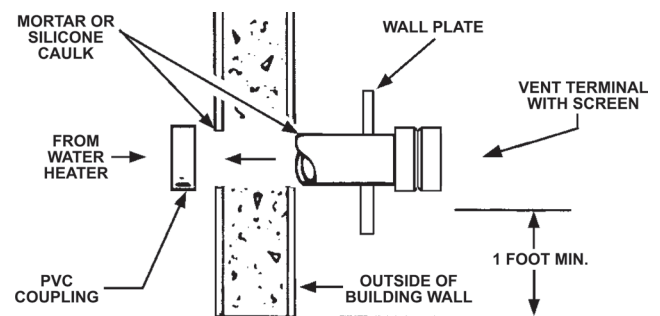
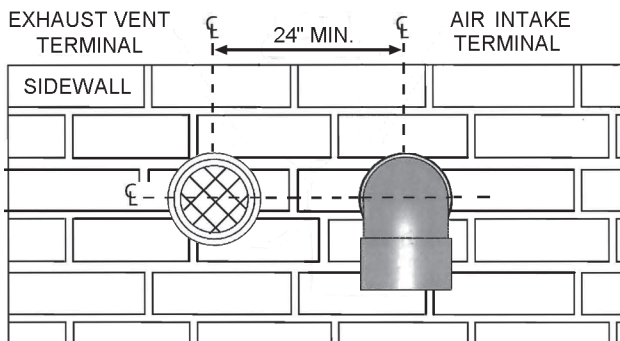

Figure 12: VENT TERMINATION
Figure 13A
2. Through-the-Wall Termination - horizontal vent termination directly through an outside wall, see Figure 12 on Page 27.
The first step is to determine where the vent pipe will terminate. See Figure 12, Figure 13A, and Figure 14. The vent may terminate through a sidewall as shown in Figure 12, Figure 13A and Figure 14 or through the roof as shown in Figure 17, Figure 18 and Figure 19.
Instructions on proper installation through a sidewall are provided in Figure 12, Figure 13A, and Figure 14.
Cut a length of pipe about 3.5 inches (8.9 cm) longer than the wall thickness at the opening. Glue the vent terminal to this section of pipe. Slide the wall plate over the pipe to stop against the vent terminal. Place a bead of caulking (not supplied) around the gap between the pipe and cover plate. Apply enough to fill some of the gap between the pipe and wall. Place some of the caulking on the back of the plate to hold it against the wall after installation. If the vent pipe is installed up to the wall, with a coupling on the end against the wall opening, the pipe with the vent terminal can be prepared for gluing before inserting through the wall. Slide the pipe through the wall and insert into the coupling on the other side of the wall, making sure that the vent terminal ends up pointed in the correct position, see Figure 12.
6. If the air intake pipe is installed up to the wall, with a coupling on the end against the wall opening, the pipe with the air intake terminal can be prepared for gluing before inserting through the wall. Slide the pipe through the wall and insert into coupling on the other side of the wall, making sure that the air intake terminal ends up pointed in the correct position (Figure 13A and Figure 14).